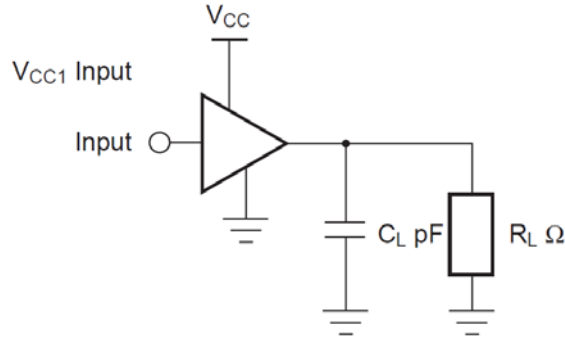
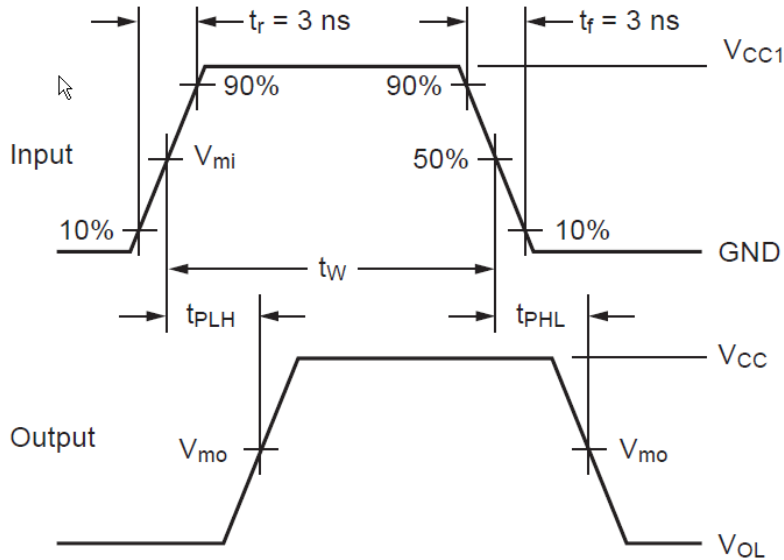

Figure 3. AC Test Circuit
Figure 4. Waveform for Inverting and Non-Inverting Functions
| t _{PHL} , t _{PLH} | Propagation Delay Output Translation V _{CC} (V) = 1.0 | C _L = 15 pF, R _L = 1 MΩ | 1.0 | – | 28.0 | – | – | – | ns | Figure 3, Figure 4 |
| t _{PHL} , t _{PLH} | Propagation Delay Output Translation V _{CC} (V) = 1.2 | C _L = 15 pF, R _L = 1 MΩ | 1.0 | – | 19.0 | – | – | – | ns | Figure 3, Figure 4 |
| t _{PHL} , t _{PLH} | Propagation Delay Output Translation V _{CC} (V) = 1.5 | C _L = 15 pF, R _L = 1 MΩ | 1.0 | – | 15.0 | – | – | – | ns | Figure 3, Figure 4 |
| t _{PHL} , t _{PLH} | Propagation Delay Output Translation V _{CC} (V) = 1.8 | C _L = 15 pF, R _L = 1 MΩ | 1.0 | – | 14.0 | – | – | – | ns | Figure 3, Figure 4 |
| t _{PHL} , t _{PLH} | Propagation Delay Output Translation V _{CC} (V) = 2.5 | C _L = 15 pF, R _L = 1 MΩ | 1.0 | – | 12.0 | – | – | – | ns | Figure 3, Figure 4 |
| t _{PHL} , t _{PLH} | Propagation Delay Output Translation V _{CC} (V) = 3.3 | C _L = 15 pF, R _L = 1 MΩ | 1.0 | – | 11.0 | – | – | – | ns | Figure 3, Figure 4 |
| t _{PHL} , t _{PLH} | Propagation Delay Output Translation V _{CC} (V) = 1.0 | C _L = 30 pF, R _L = 1 MΩ | 1.0 | – | 34.0 | – | – | – | ns | Figure 3, Figure 4 |
| t _{PHL} , t _{PLH} | Propagation Delay Output Translation V _{CC} (V) = 1.2 | C _L = 30 pF, R _L = 1 MΩ | 1.0 | – | 22.0 | – | – | – | ns | Figure 3, Figure 4 |
| t _{PHL} , t _{PLH} | Propagation Delay Output Translation V _{CC} (V) = 1.5 | C _L = 30 pF, R _L = 1 MΩ | 1.0 | – | 16.0 | – | – | – | ns | Figure 3, Figure 4 |
| t _{PHL} , t _{PLH} | Propagation Delay Output Translation V _{CC} (V) = 1.8 | C _L = 30 pF, R _L = 1 MΩ | 1.0 | – | 15.0 | – | – | – | ns | Figure 3, Figure 4 |
| t _{PHL} , t _{PLH} | Propagation Delay Output Translation V _{CC} (V) = 2.5 | C _L = 30 pF, R _L = 1 MΩ | 1.0 | – | 13.0 | – | – | – | ns | Figure 3, Figure 4 |
| t _{PHL} , t _{PLH} | Propagation Delay Output Translation V _{CC} (V) = 3.3 | C _L = 30 pF, R _L = 1 MΩ | 1.0 | – | 12.0 | – | – | – | ns | Figure 3, Figure 4 |